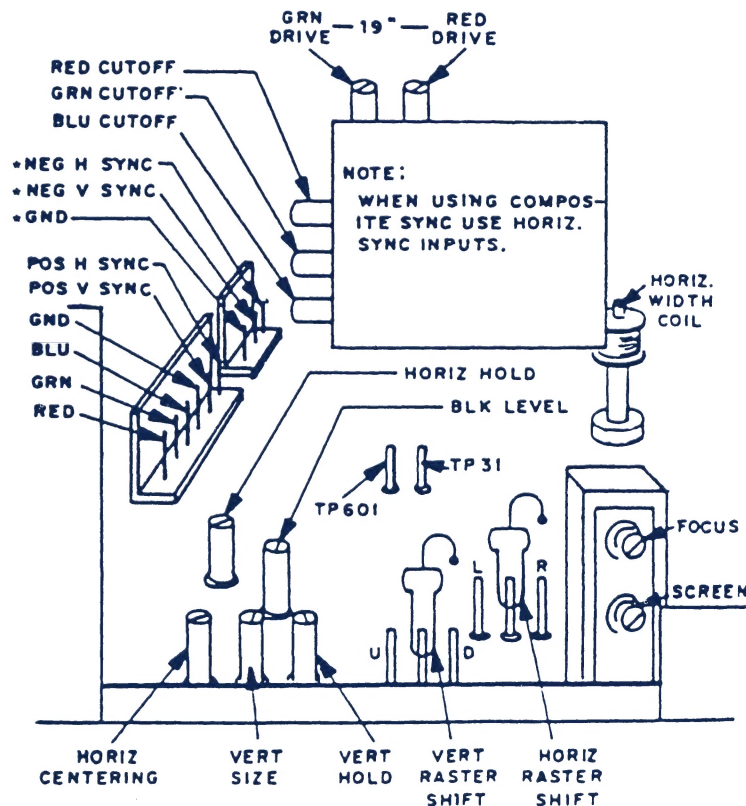

FIGURE 1
Location of this control is shown in Fig. 1. This control must be adjusted slowly, if necessary, until the picture or test pattern attains the correct vertical proportions.
5.0 HORIZONTAL HOLD CONTROL ADJUSTMENT, VR351 (See Fig. 1)